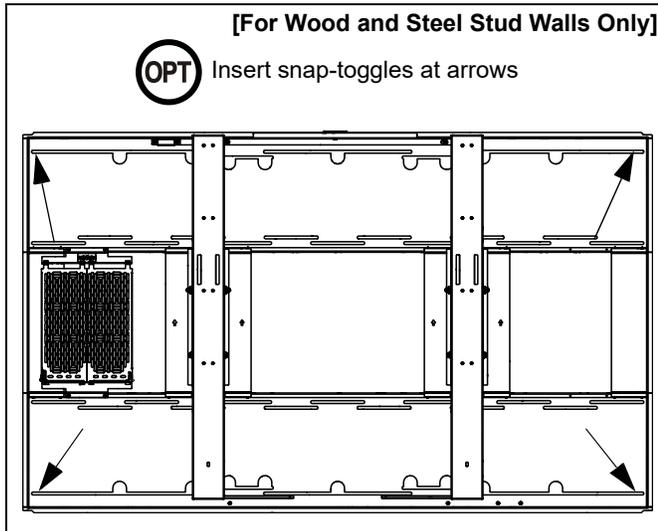

Figure 7
**IMPORTANT ! : (OPTIONAL for wood and steel stud installations)** For additional rigidity in the installation, use a Snap-Toggle (AC), 1/4-20 x 1-3/4" Phillips screw (AD) and 1/4" washer (AE) at each corner of the rear frame if it is not attached to the studs at those points. (See Figure 7)